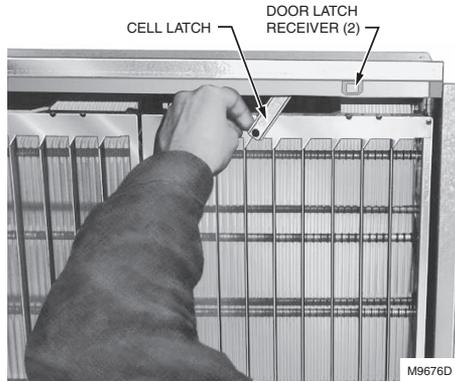

Fig. 6. Release the electronic cell(s).
- The electronic cell(s) are held in the air cleaner by a latch at the top, and metal hooks on the bottom. Push the cell inward to release the latch and rotate the latch away from the cell. See Fig. 6.
- d. Rotate the cell latch to secure the cell(s) (see Fig. 6).